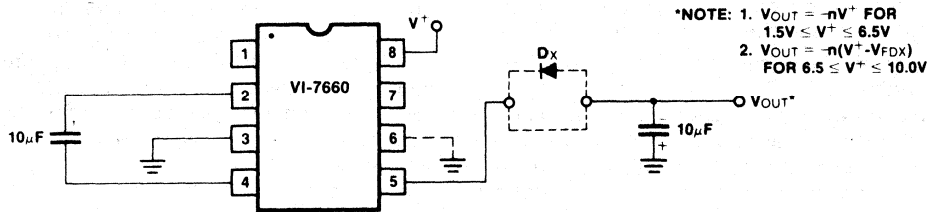
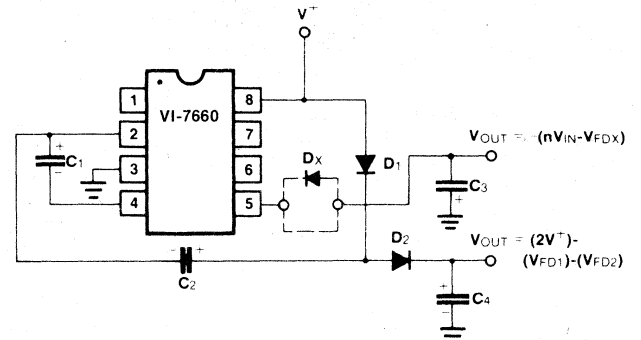

Figure 4: Simple Negative Converter
Figure 10: Combined Negative Converter and Positive Multiplier
The majority of applications will undoubtedly utilize the VI-7660 for generation of negative supply voltages. Figure 4 shows typical connections to provide a negative supply where a positive supply is available. A similar scheme may be employed for supply voltages anywhere in the operating range of +1.5V to +10.0 volts, keeping in mind that pin 6 (LV) is tied to the supply negative (GND) only for supply voltages below 3.5 volts, and that diode D_x must be included for proper operation at higher voltages and/or elevated temperatures.
The output characteristics of the circuit in Figure 4 are those of a nearly ideal voltage source in series with 70 ohms. Thus for a load current of -10mA and a supply voltage of +5 volts, the output voltage will be -4.3 volts. The dynamic output impedance due to the capacitor impedances is $1/\omega C$ where
Figure 10 combines the functions shown in Figures 4 and 9 to provide negative voltage conversion and positive voltage multiplication simultaneously. This approach would be, for example, suitable for generating +9 volts and -5 volts from an existing +5 volt supply. In this instance capacitors C₁ and C₃ perform the pump and reservoir functions respectively for the generation of the negative voltage, while capacitors C₂ and C₄ are pump and reservoir respectively for the multiplied positive voltage. There is a penalty in this configuration which combines both functions, however, in that the source impedances of the generated supplies will be somewhat higher due to the finite impedance of the common charge pump driver at pin 2 of the device.